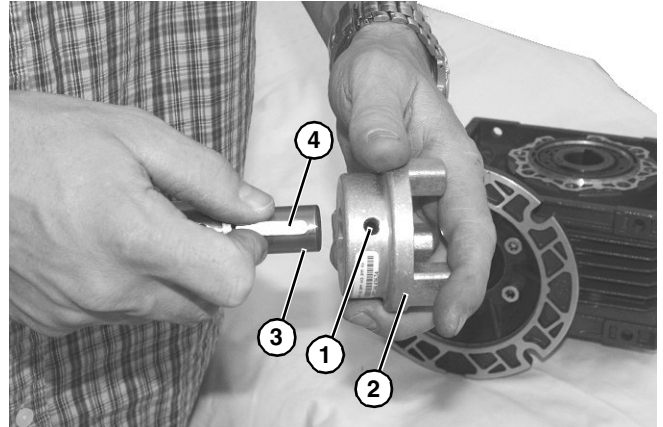

Figure 16
7. Inspect gear reducer output shaft assembly for wear or damage. If necessary, loosen set screw (**Figure 16, item 1**) and remove 3 jaw coupling (**Figure 16, item 2**) from gear reducer output shaft (**Figure 16, item 3**).
9. Remove key from in slot in gear reducer output shaft assembly (**Figure 16, item 4**). Install new components for shaft reverse of removal. Tighten set screw (**Figure 16, item 1**) to 35 in-lb (4 Nm).